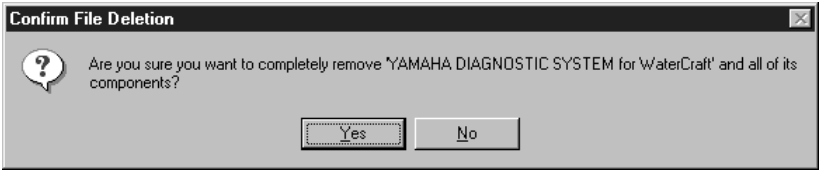

Fig. 68
5. Click the **Yes** button in the confirmation window to uninstall the utility software. To cancel the uninstall operation of the utility software, click the **No** button. (See figs. 68–70.)